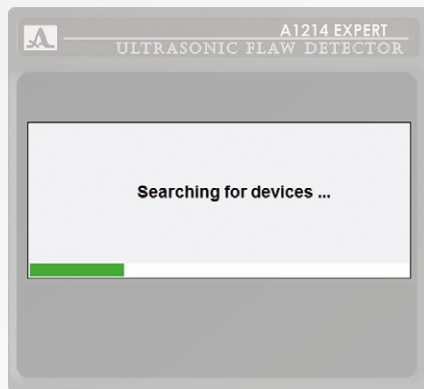

Figure 35
- an information window will be opened (Figure 35).